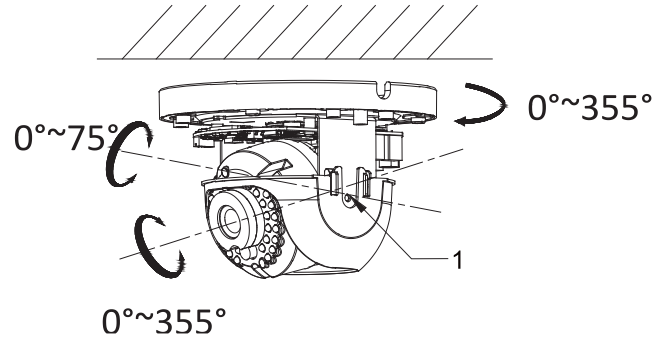

Figure 3: Camera adjustment in 3 axes; 1 – locking screw
The camera is designed to be used in an indoor and also an outdoor environment (IP67 rating), where it can be installed on the ceiling or on the wall. Camera lens adjustment is performed in 3 axes so it allows very simply installation at any position (see. Figure 3).
7. Fix the camera base to the mounting base using 3 metric screws using a Torx key. Mind the correct position of the camera, see the notch in figure 3.
8. Perform camera registration (see the chapter: Registration to a server) to obtain access to preview and align the camera in the required direction, allowed in three axes, see figure 3.